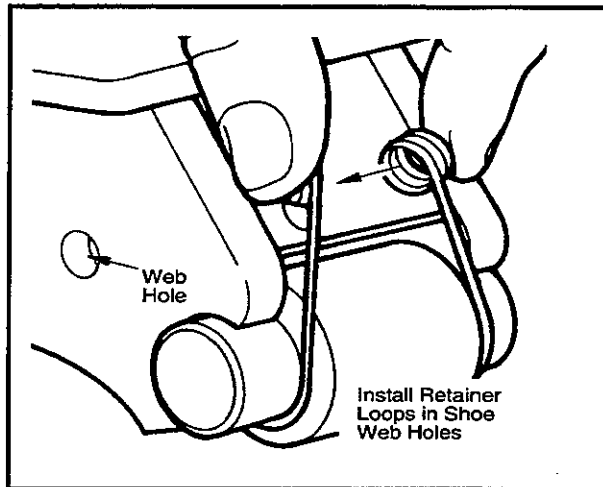

Figure 20—Squeeze Loops
24. Squeeze loops and swing retainer in position to snap loops into webs. (See Figure 20—Squeeze Loops.)